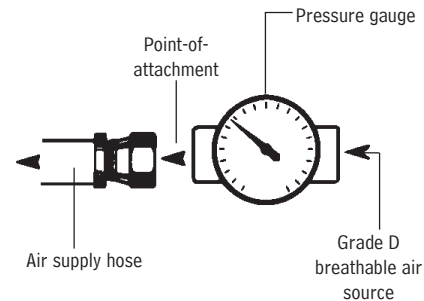

Figure 4
7. Adjust the air pressure at the point-of-attachment to within the approved pressure range found in the respirator user manual **(Figure 4)**.